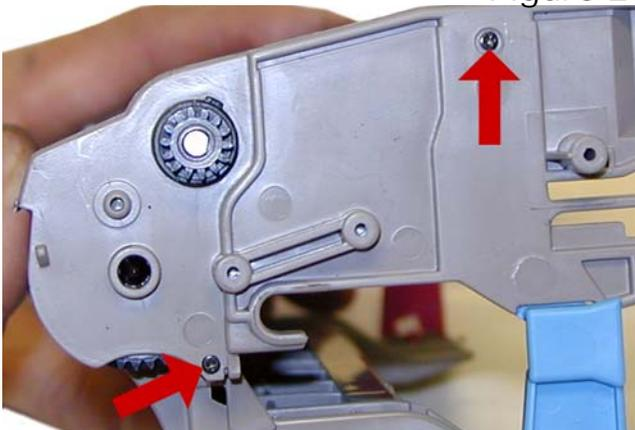

Figure 28
25) On the opposite side, remove the two small Phillips head screws from the frame as indicated. See **Fig. 28**